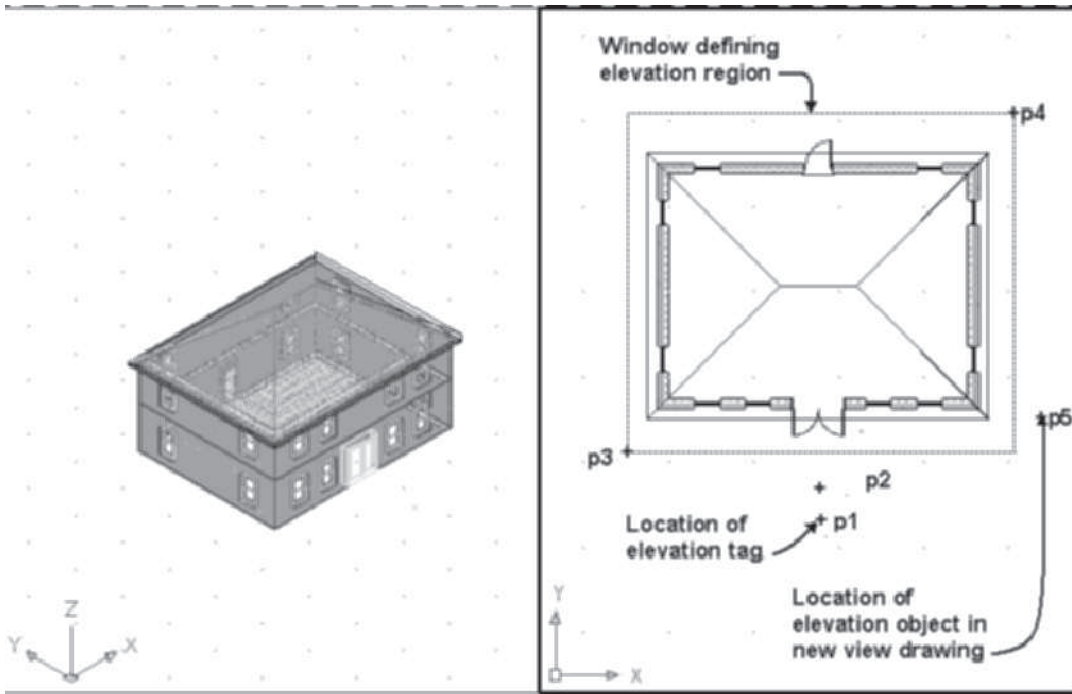
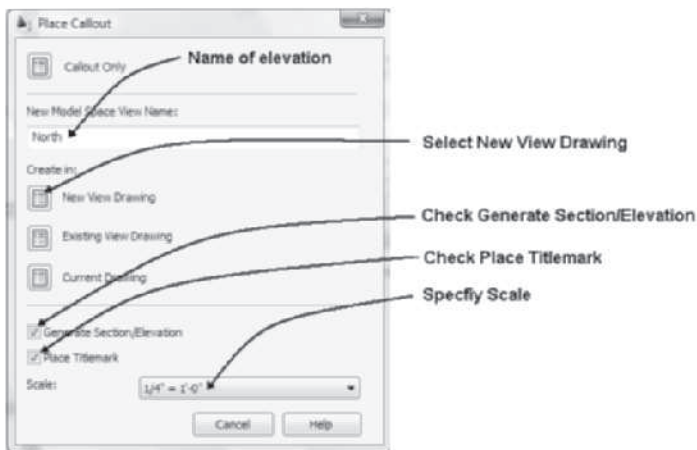
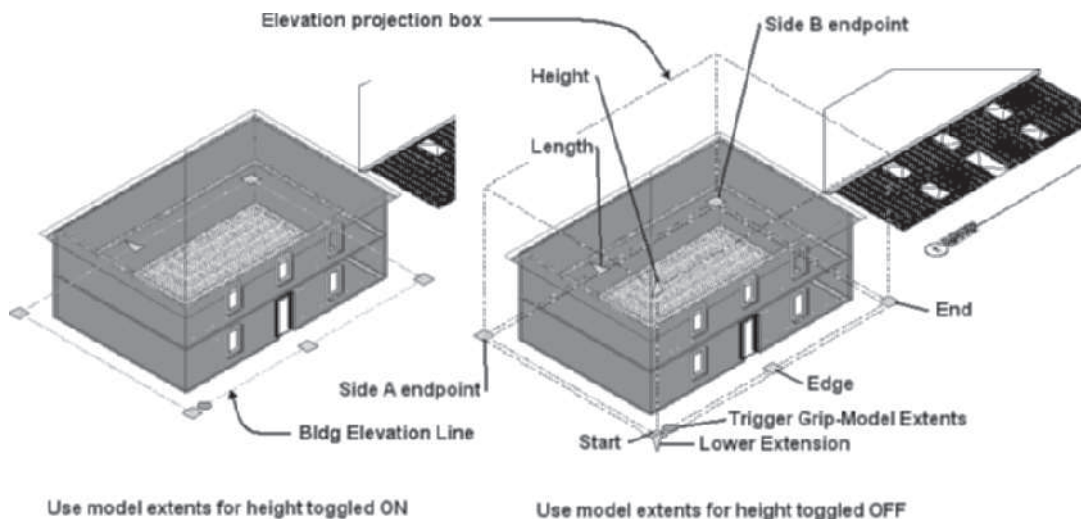

FIGURE 12.4 Specify location of callout and building elevation line
FIGURE 12.5 Place Callout dialog box
FIGURE 12.13 Elevation drawing in the View drawing
Each of the elevation mark tools of the Callouts palette opens the **Place Callout** dialog box, which includes options to place the mark as shown in Figure 12.5. When you select the elevation mark tool, you are prompted to specify the location and direction of the tag (see Figure 12.4), and then the **Place Callout** dialog box opens. The tag is an annotative tag that will include scale representations for the annotation scale. The building elevation line is created during the process of placing the callout if you check **Generate Section/Elevation**. The **Place Callout** dialog box allows you to create a new View drawing, replace an existing view elevation drawing, or add an elevation within the current drawing as shown in Figure 12.5. After you place the elevation mark, you are prompted to select the corner of the elevation region, which places the elevation building line and defines the view direction of the projection box for the elevation. The elevation or section line and projection box shown in Figure 12.13 specify the objects included in the elevation or section view.
Specify location of elevation tag: (Select a point near p1 as shown in Figure 12.4 to place the callout.)
Specify direction for elevation: (Select a point near p2 as shown in Figure 12.4 to specify the direction of view.)
4. The **Place Callout** dialog box opens as shown in Figure 12.5. Type **North** in the **New Model Space View Name** field, verify that **Generate Section/Elevation** and **Place Titlemark** are checked, set the scale to **1/4" = 1'-0" [1:50]**, and check **New View Drawing** to open the **Add Section/Elevation View** dialog box.
Specify first corner of elevation region: (Select a point near p3 as shown in Figure 12.4 to define the start location of the projection box.)
Specify opposite corner of elevation region: (Select a point near p4 as shown in Figure 12.4 to define the size and content of the projection box.)
Specify insertion point for the 2D elevation result: (Select a point near p5 as shown in Figure 12.4 to locate the coordinates of the new elevation view.)
After you create the elevation view, you can open the Construct drawings and make revisions. The elevation can be updated to reflect the changes. However, the building elevation line defines the viewing direction and size of the three-dimensional projection box for content of the elevation; therefore, only those objects that fall within the box will be included in the elevation. For the elevation to be captured correctly, the changes in the construct may require the size and location of the building elevation line to be changed. You can select the building elevation line in the View drawing to modify its location and size using grips. The size of the elevation projection box can be changed by dragging the grips located at the base of the projection box shown in Figure 12.13. The default height of the building elevation projection box is set equal to the height of the model space entities within the building line. If you select the trigger grip shown on the next page in Figure 12.13, the height of the projection box is displayed, and you can select the height and lower extension grips to edit the projection box.